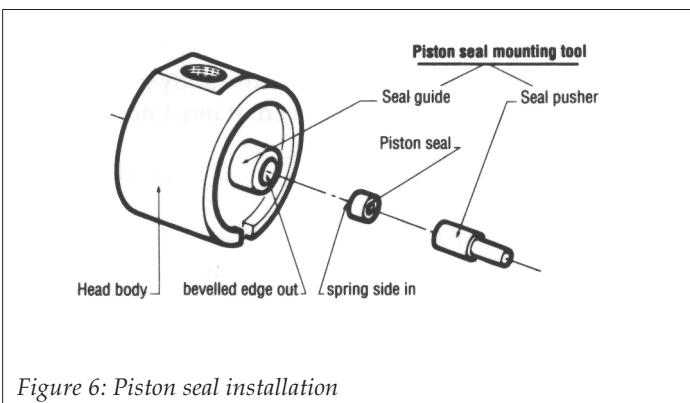

Figure 6: Piston seal installation
- Referring to Figure 6, use the piston seal mounting tool (Fig. 2A/2B, item E, Fig. 2C, item G), which is composed of a seal pusher and a seal guide, to install the new piston seal as follows: